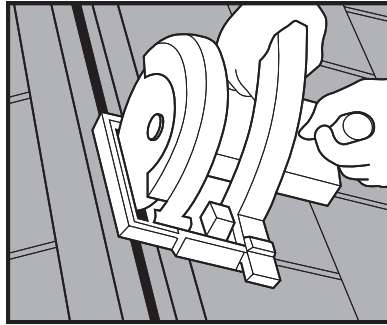

Fig. 1
- 2) For roofs with a ridge board, cut a  $\frac{5}{8}$  inch slot in the roof sheathing beyond each side of the ridge board. For an engineered truss roof, cut a  $\frac{5}{8}$  inch slot on each side of the ridge (total slot width of  $1\frac{1}{4}$  inches). See Figure 1.
**IMPORTANT:** Start and end your cut 6 inches in from the rake edges (snapping chalk lines will aid in keeping a uniform ridge opening). Set your saw depth to cut the decking only. Do not cut into the roof framing. See Figure 1.